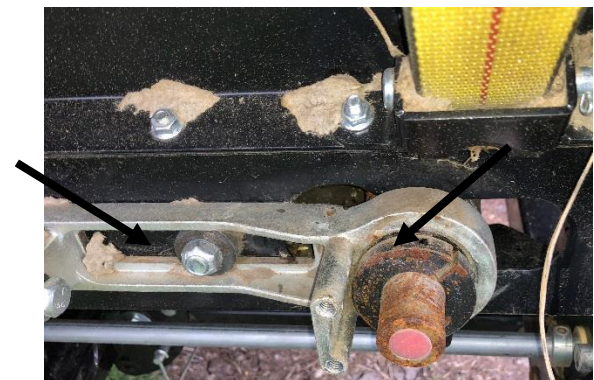

Figure 91
1. Remove the shield and lock collar. Remove the bolts holding the bearing holder and remove the bearing and holder. Figure 91